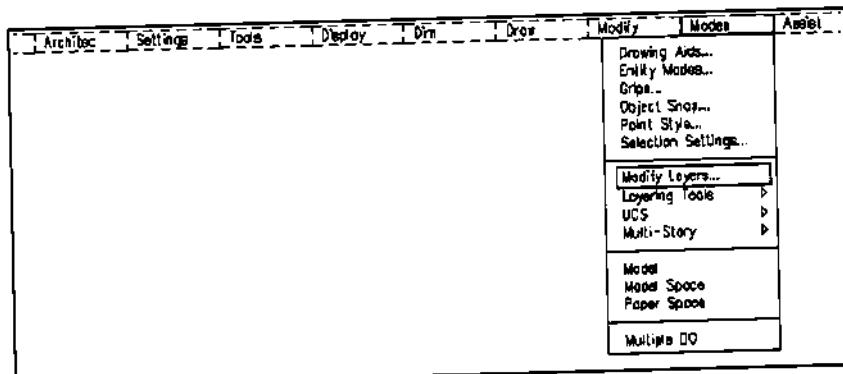

Figure 3.
1. Select Modify Layers from the Modes pull-down menu as shown in Figure 3 to open the Layer Control dialog box.